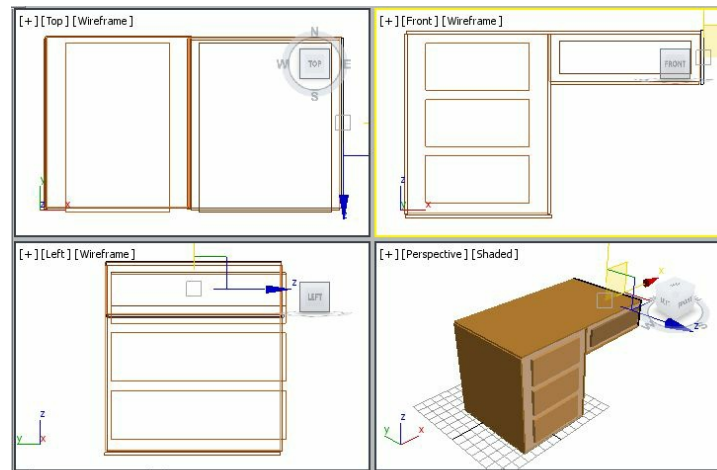

Figure 2-59 Alignment of right face with the right side of right box of the table
16. Align *right face* with the right side of *right box*, as shown in Figure 2-59.